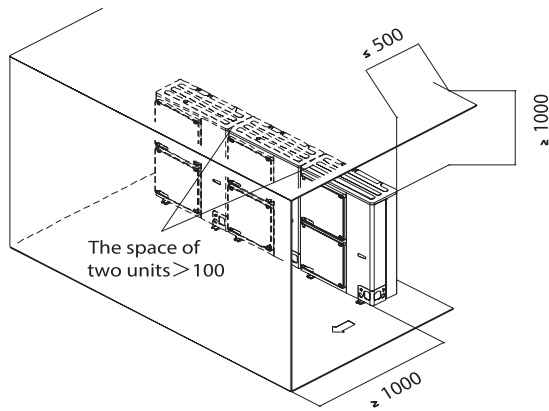

Figure 10
b. Group units installation (more than two units)(see Figure 10)